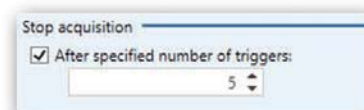

Figure 9.12: Stop acquisition
- F Define how the total data acquisition process should be stopped (see Figure 9.12).